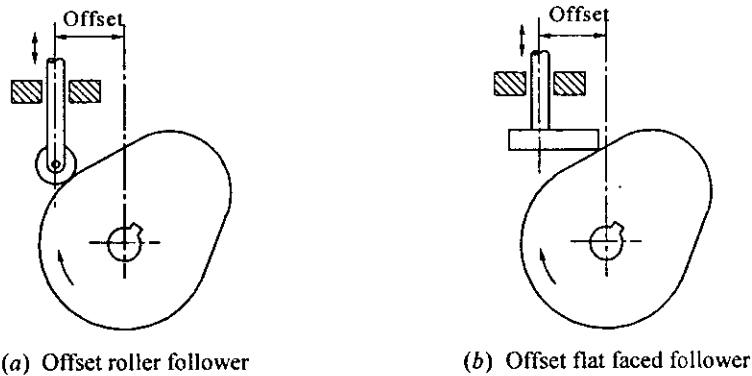

Fig. 8.3 Offset follower
2. *Off-set follower:* In off-set follower, the line of the motion is off-set from the center of rotation of the cam (refer fig. 8.3)